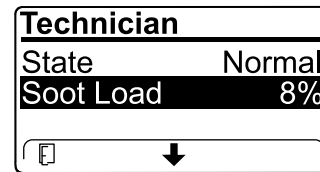

Figure 35
- View the soot load which is measured as the percentage of soot in the DPF (Figure 35); refer to the soot-load table.